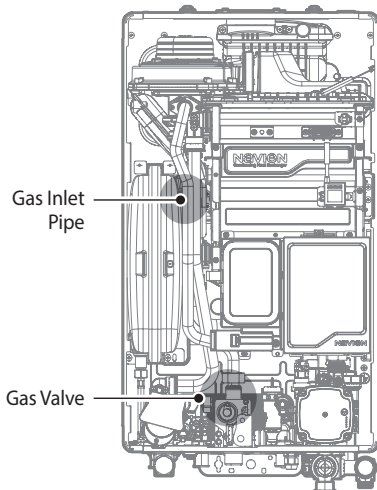

Figure 2. NCB300 Internal Components
- With the internal components exposed, locate the gas inlet pipe and the gas valve in the middle of the unit, as shown in Figure 2.